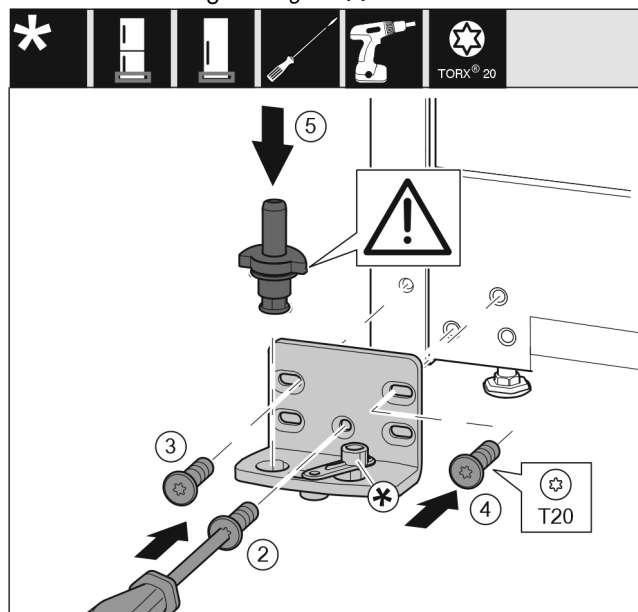

Fig. 14
- Place the bearing bracket on the other side and screw it in using the T20 screwdriver. Start with screw 2 at the bottom in the middle. *Fig. 14 (2)*
- Screw in screws 3 and 4. *Fig. 14 (3,4)*
- Insert the bearing pin completely. Make sure that the latching lug is pointing to the rear. *Fig. 14 (5)*